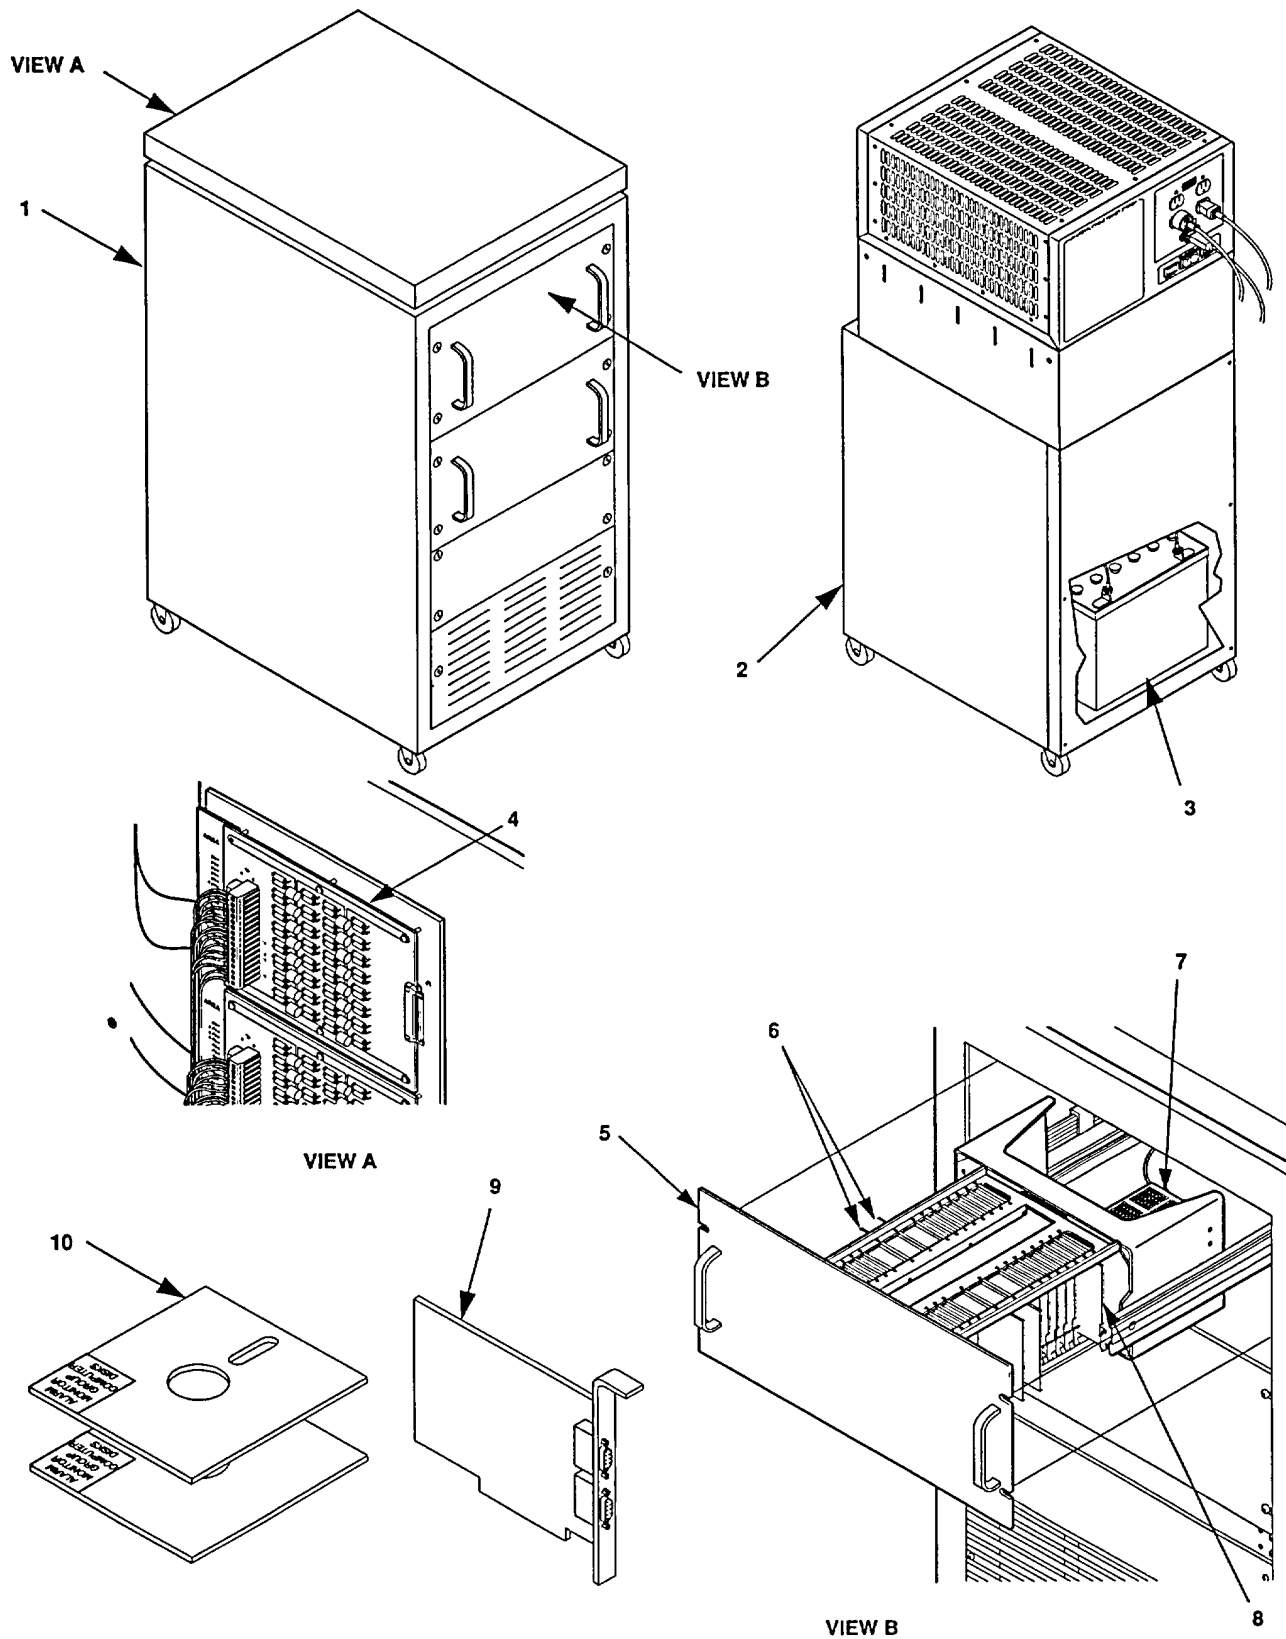

Figure 1-2. AMG Major Components.
**1.11.1 Location of Major Components.** Table 1-2 provides the major components indexed to figure 1-2 for major components with a brief description.